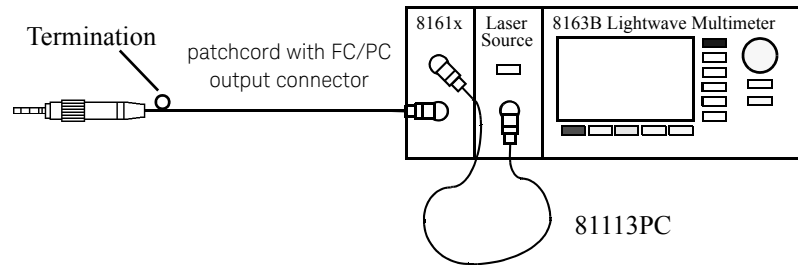

Figure 110 Termination Calibration - External source
- 1 Making sure all the connectors are clean, set up the instrument as shown in Figure 110 on page -191 if you are using an External Source,